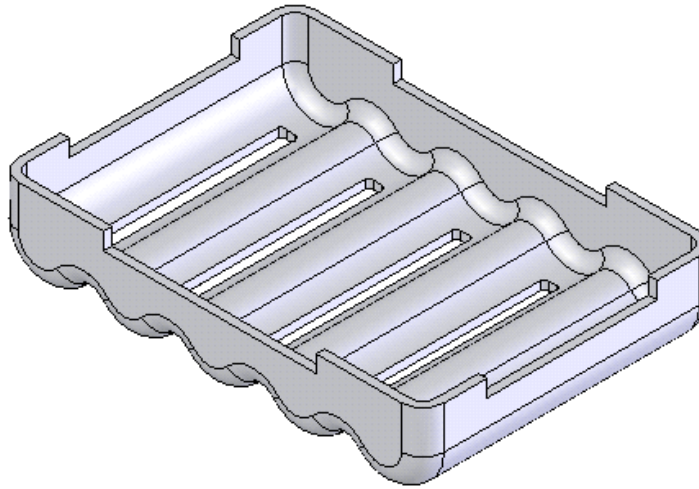

Figure 8-48 Model after creating other features
- Create the cuts on the sides of the model, refer to Figure 8-48.
- f. Create the slots on the lower part of the base and add the fillet to the slots feature, refer to Figure 8-48.
- g. Pattern the slots and the fillet feature, refer to Figure 8-48.
Using the **Cut-Extrude**, **Fillet**, and **Linear Pattern** tools create the remaining features of the model. The model after creating the features using these tools is displayed in Figure 8-48.